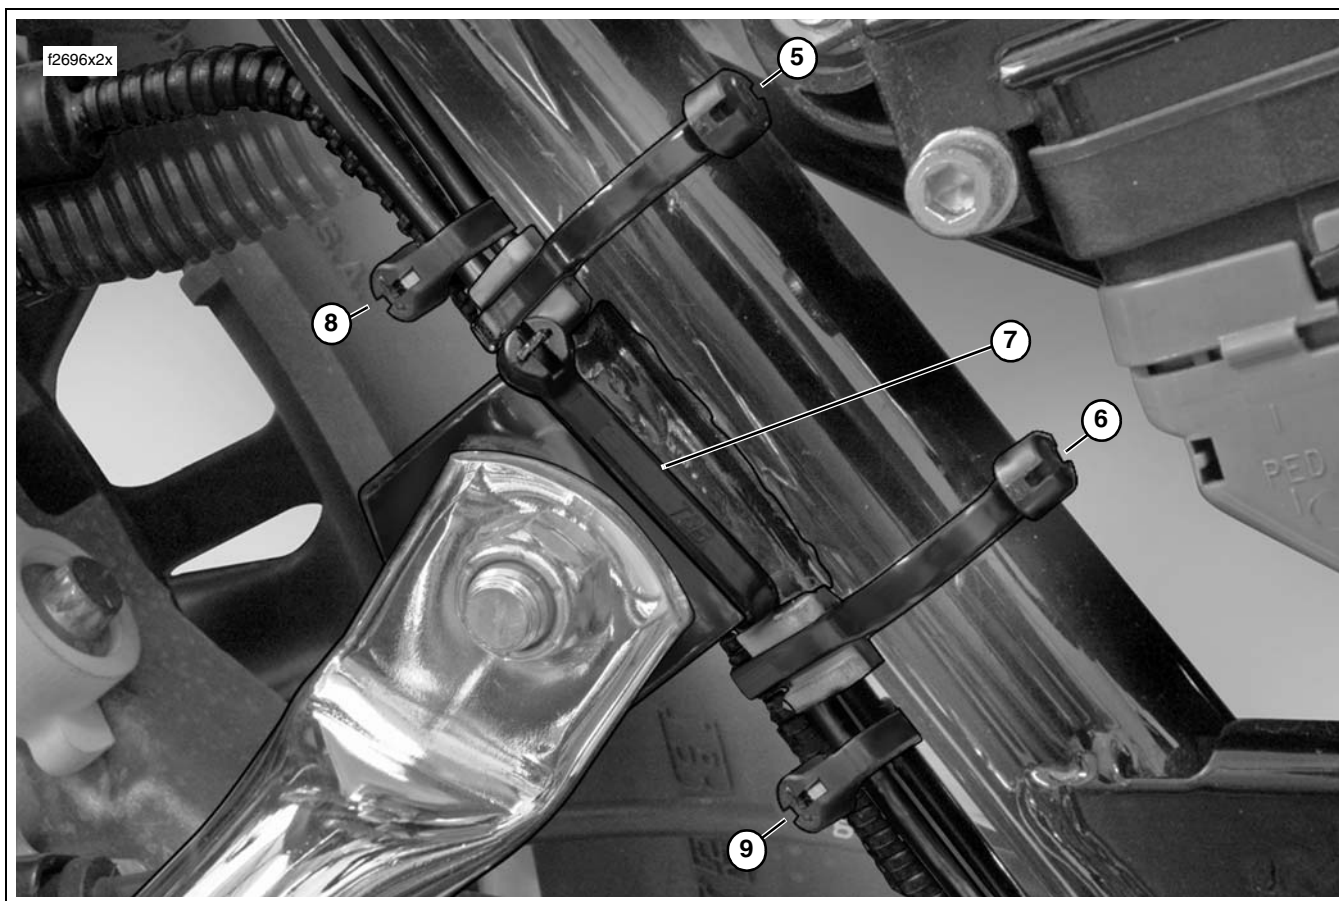

Figure 7. Install Long Frame Guide and Five Cable Straps at Rear Frame Downtube
8. See items 5 and 6 of Figure 7. Capturing three brake lines and rear frame downtube, install **new** cable strap in slot on each end of long frame guide.
9. See item 7 of Figure 7. Install **new** cable strap capturing posts of long frame guide and saddlebag guard weldment.
10. See items 8 and 9 of Figure 7. At top and bottom of long frame guide, install **new** cable straps capturing three brake lines only.
12. See items 5 and 6 of Figure 7. Capturing three brake lines and rear frame downtube, install **new** cable strap in slot on each end of long frame guide.
13. See item 7 of Figure 7. Install **new** cable strap capturing posts of long frame guide and saddlebag guard weldment.
14. See items 8 and 9 of Figure 7. At top and bottom of long frame guide, install **new** cable straps capturing three brake lines only.